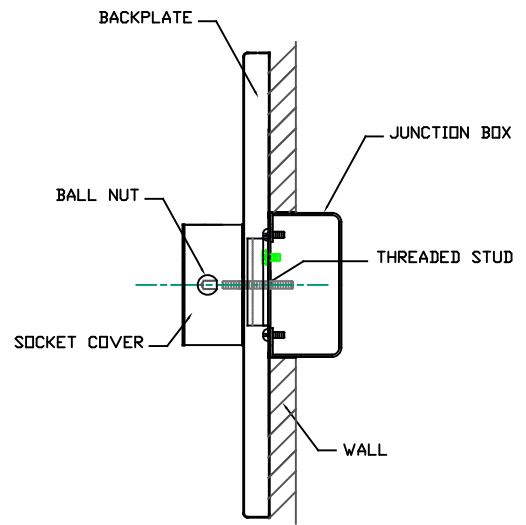

FIGURE-02
4. Attach the backplate to the mounting plate and secure it with ball nuts. (See Figure-02)